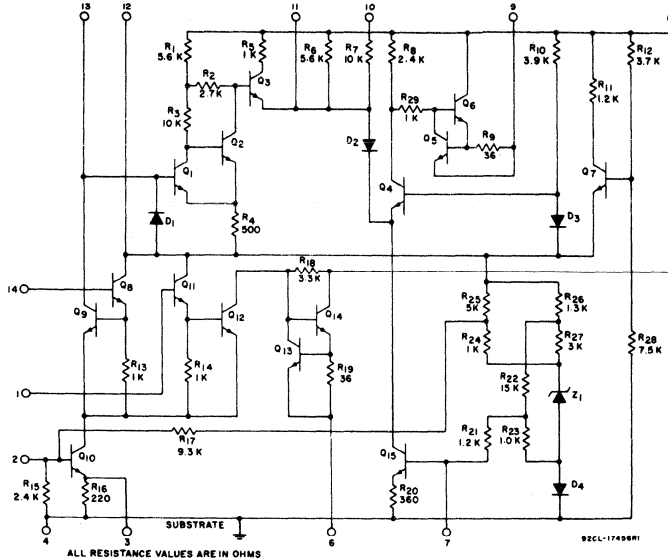

Fig. 6 - Schematic diagram for CA3071.
1. APC ADJUST: With S_2 in "OFF" position adjust the "APC ADJ." potentiometer to set oscillator frequency at 3.579545 MHz ± 25 Hz. With S_1 in position 1 measure frequency at terminal No. 2 output, using crystal probe shown in Fig. 6.